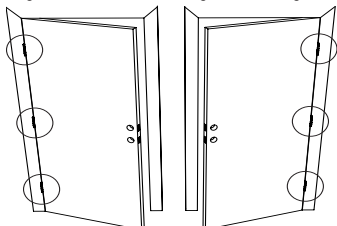

Figure 4a
- If the hinges are on the left your door is Left Handed (Figure 4a and 4b).
- If the hinges are on the right your door is Right Handed (Figure 4a and 4b).